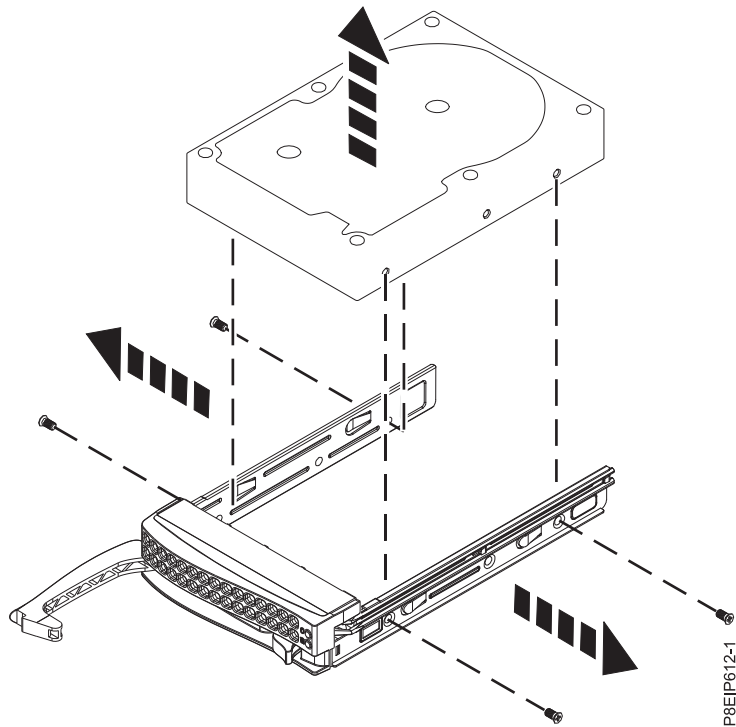

Figure 2. Removing the 3.5-inch drive from the tray
- For a 3.5-inch drive, unfasten the drive from the sides of the tray by removing four screws (2 on each side), as shown in Figure 2 on page 5.